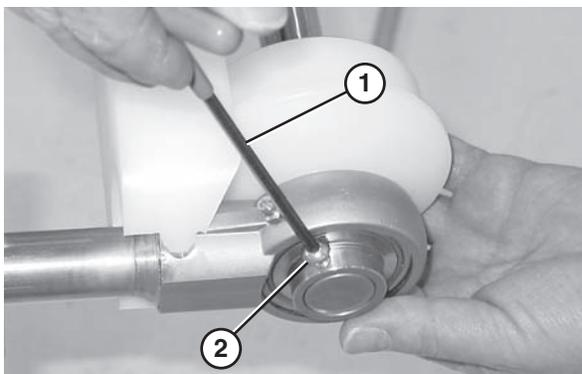

Figure 84
- Use a hex wrench (**Figure 84, item 1**) to tighten the bearing shaft fasteners (**Figure 84, item 2**) to 54 in•lbs (6 N•m). Check after 24 hours of conveyor use.